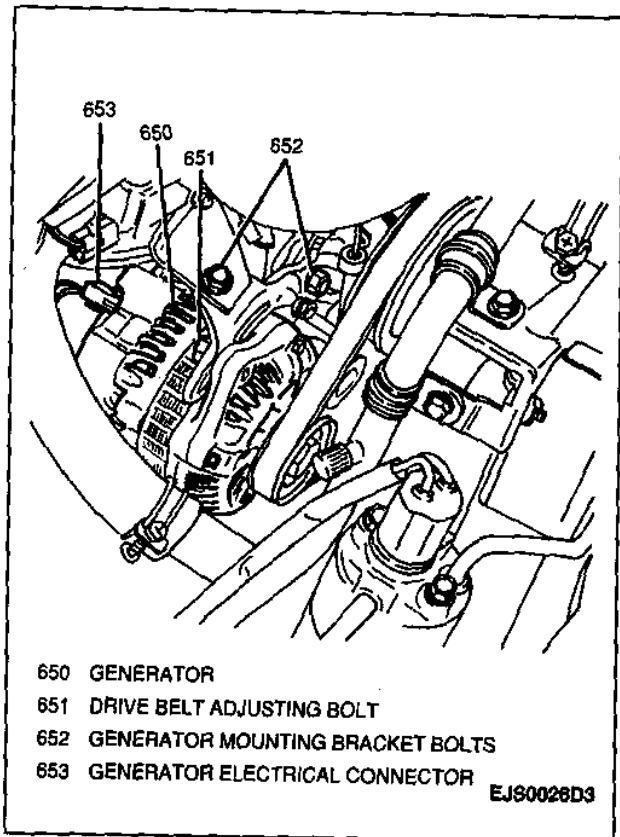

Figure 2—Removing Generator
Figures 2 and 3
5. Generator electrical connector from back of generator (Figure 2).
7. Two upper generator mounting bracket bolts (Figure 2).